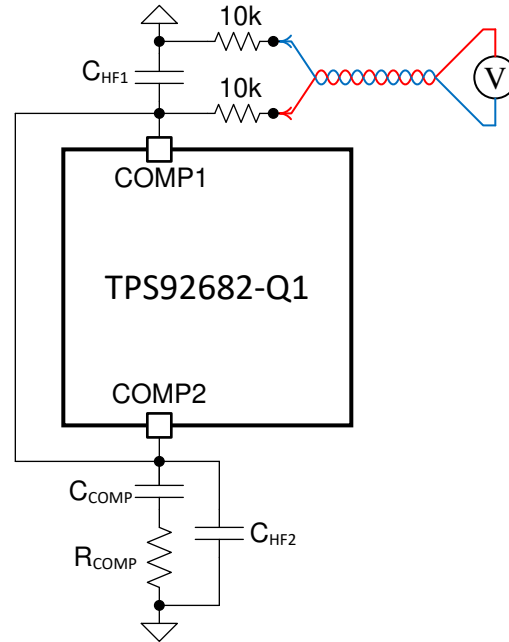

图 7-13. Current Sharing Calibration Setup
- Set CH2GOFF = 1 and CH1GOFF = 0 in 表 7-40. This setting turns off channel-2. Measure the COMP voltage as shown in 图 7-13 and record the measurement as  $V_{COMP1}$ .